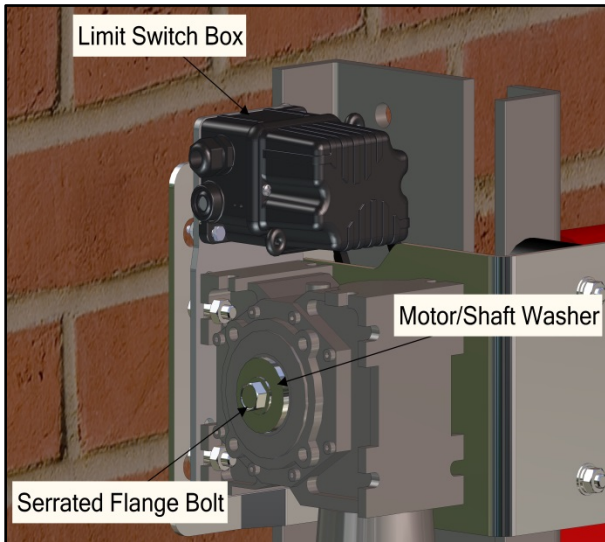

**Figure 17**
21. Align the slot of the motor/gearbox assembly with the key on the shaft. (See Figure 17)
22. Slide the assembly onto the shaft until it butts against the motor spacer. (See Figure 17)